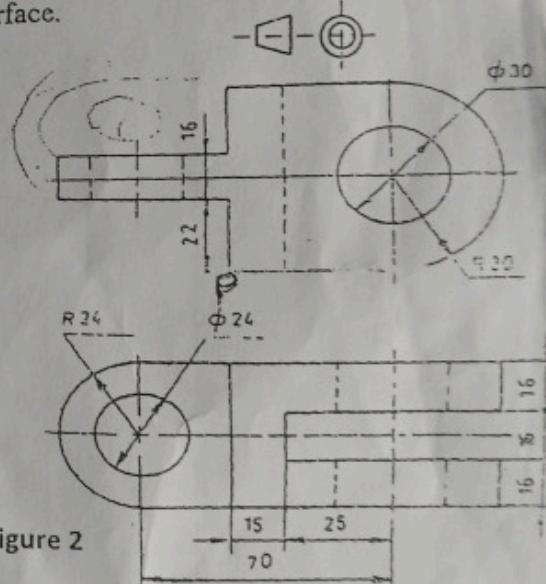

Figure 2
2. a. Copy the views in Figure 2 and draw the left hand side view.
b. Make an isometric drawing of the views in Figure 2 such that point P is the lowest point on the drawing.